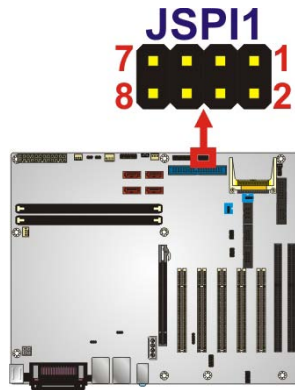

Figure 3-17: SPI Flash Connector
- CN Location: See **Figure 3-17**